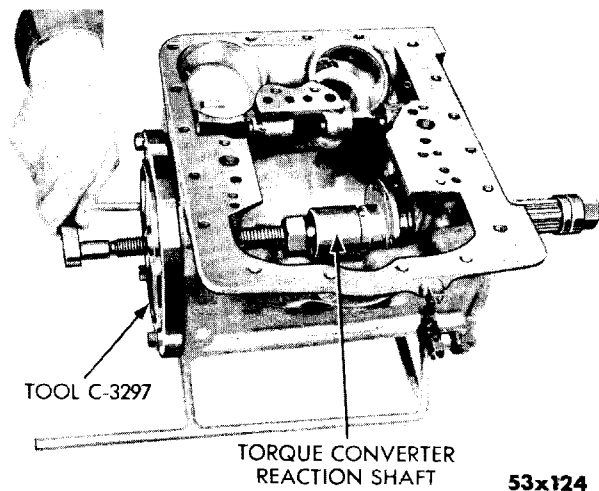

Fig. 34—Removal of Torque Converter Reaction Shaft
(1) Remove neoprene seal ring.
(2) Remove the three transmission case to reaction shaft screws and washers.
(3) Using Tool C-3297 or C-3531 press reaction shaft out of transmission case as shown in Figure 34.